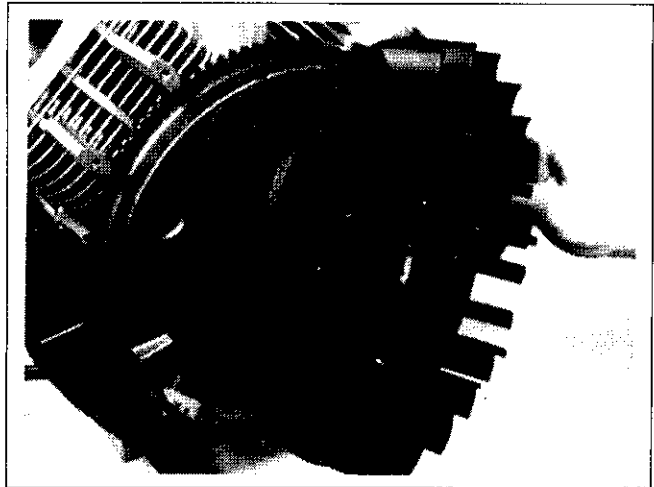

Figure 9-53. Removing Fan.
2. Remove the four hex. flange screws and fan. See Figure 9-53.